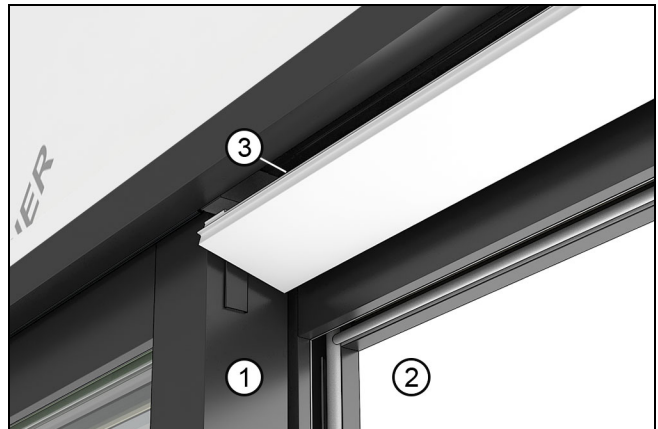
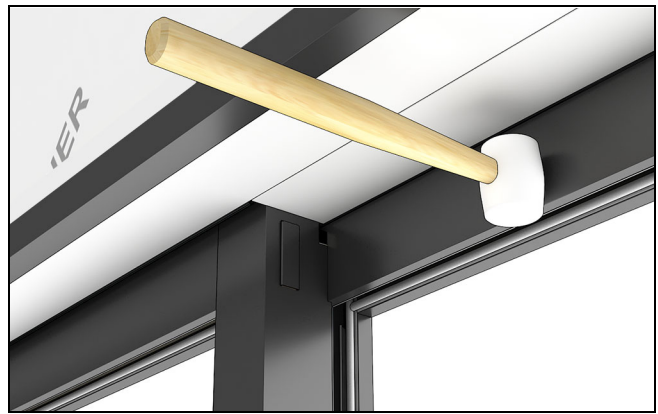

Figure 181 Exterior frame covers
Figure 183
2. Starting from the exterior, install the head jamb covers. The covers have a leg that fits into a kerf on the jamb weather strip or a kerf in the frame itself. Fit the leg on the cover into the kerf on the jamb and rotate the cover into place. You may need to seat the cover with a rubber mallet. See Figure 181, Figure 182, and Figure 183.